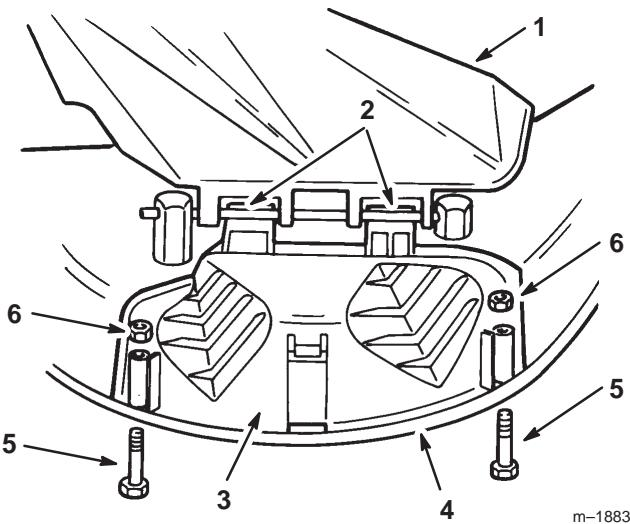

Figure 14
2. Lift the grass deflector and slide the tabs on top of the discharge cover under the grass deflector retaining rod. Rotate the discharge cover down over the opening and onto the lower lip of the mower (Fig. 14).
3. Secure the discharge cover to the lower lip of the mower with bolts and nuts (Fig. 14).